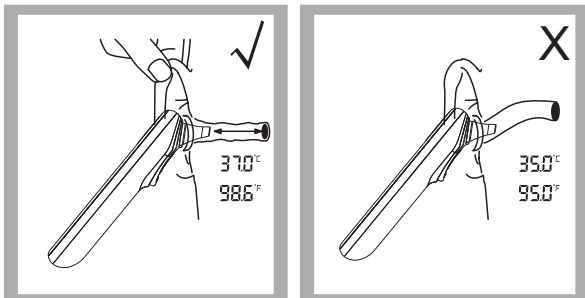

Figure 3
3. Insert the probe along the ear canal as deep as possible into the ear as depicted in Figure 3. Then press the *Test BUTTON* once to start the measurement. A short beep will sound approximately 1 second after the *Test BUTTON* is activated. This signals the end of the process as results are displayed on the LCD screen.